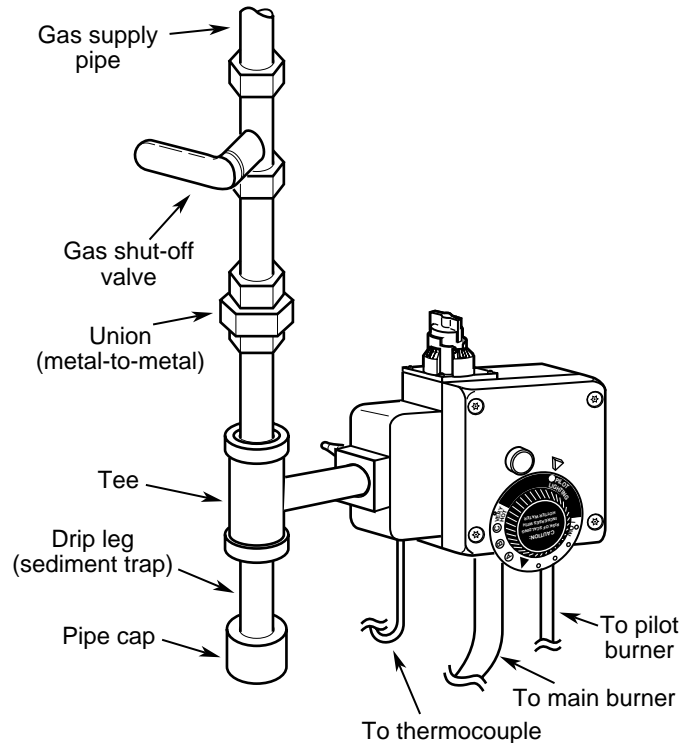

Figure 1. Typical gas connection
4. Disconnect gas line at union (figure 1). Remove piping from old control.
Dirt or contamination in the gas line can block the control from operating creating a risk of explosion, injury or death. To protect the control from dirt/contamination, a drip leg or sediment trap (see Figure 1) must be installed in the piping leading to the control.